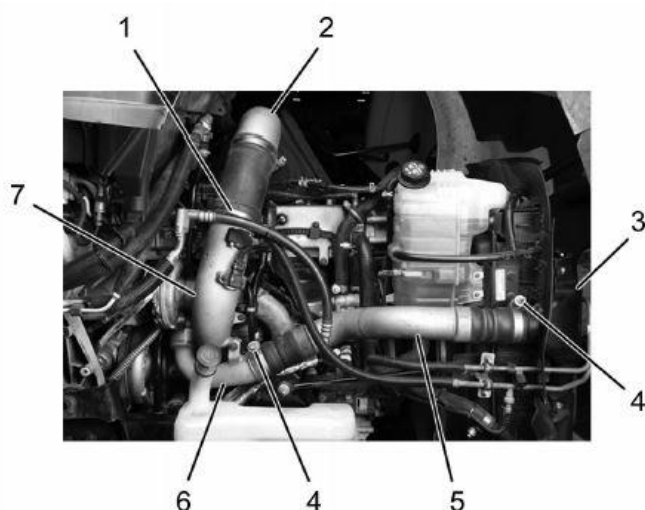

Figure 18: HP Turbocharger Connections
- Item 4: HPCAC clamp (2)
23. Install HPCAC pipe (Figure 18, Item 5) on HPCAC (Figure 18, Item 3) and HP turbocharger outlet duct (Figure 18, Item 6), and secure with two HPCAC clamps (Figure 18, Item 4).
24. Install air inlet duct (Figure 18, Item 2) on LP turbocharger inlet duct (Figure 18, Item 7), and secure with air inlet duct clamp (Figure 18, Item 1).